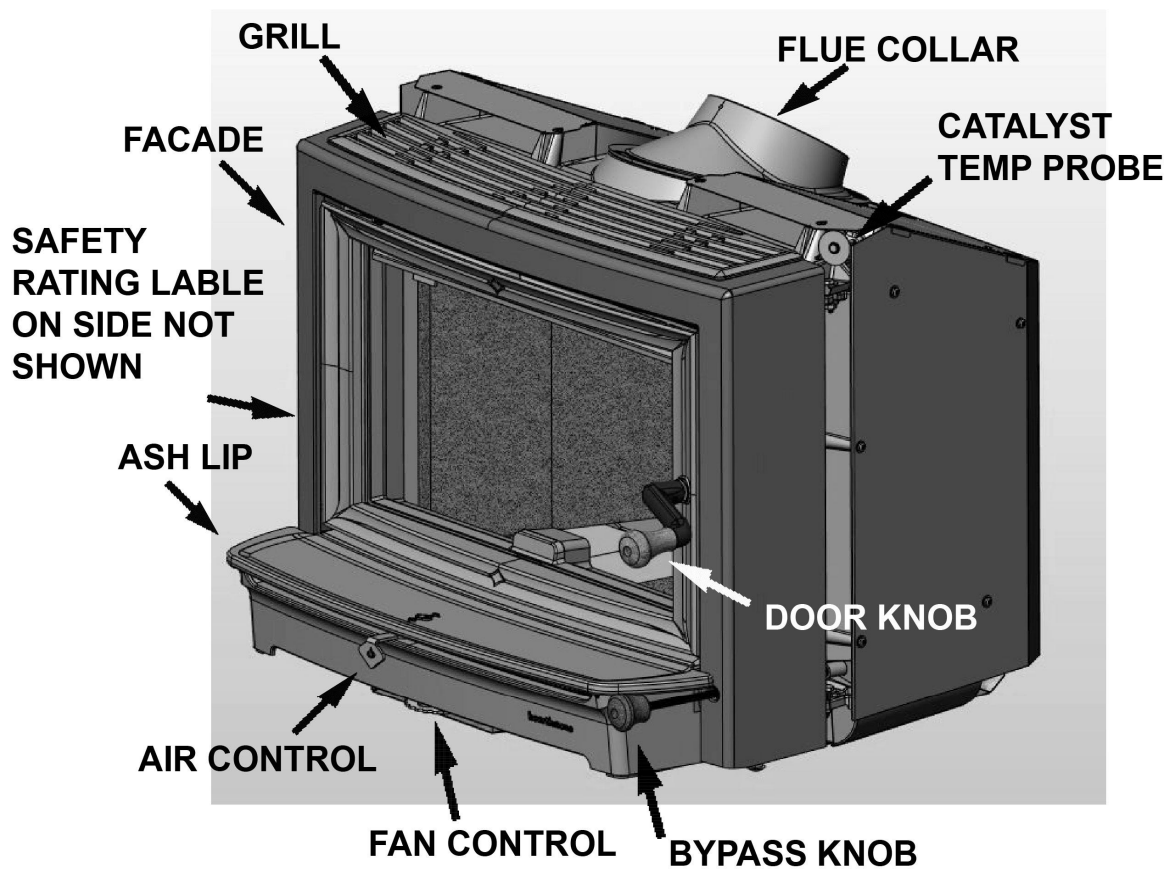

Figure 5 – Exterior Features of The Clydesdale
1. Remove Ash Lip by backing out the setscrews just below both front corners of the ash lip. Then with the door opened wide, lift the front edge of the ash lip slightly (avoid making contact with door) and move it to the left (If the door hinges are on the left move ash lip to the right.) and out from under the door. Remove the grill (see figure 5). Remove the bypass knob from the push-pull rod.
2. Close the door to within 1 inch, turn the door handle to the 12 o'clock position. Grip the facade (see figure.5) by the sides, close to the height of the ash lip, and pull the bottom of the façade out about 2 inches to clear the door and handle, lift slightly and slide facade off of bypass rod.